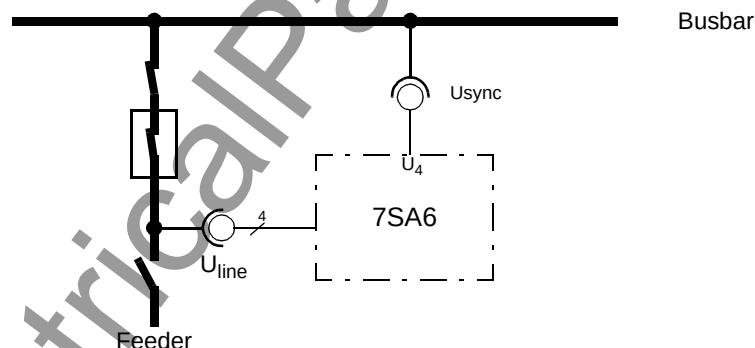

Figure 8-24 Measuring voltages for synchro-check
- Then the circuit breaker is closed while the line isolator is open (see Figure 8-24). Both voltage transformers therefore measure the same voltage.